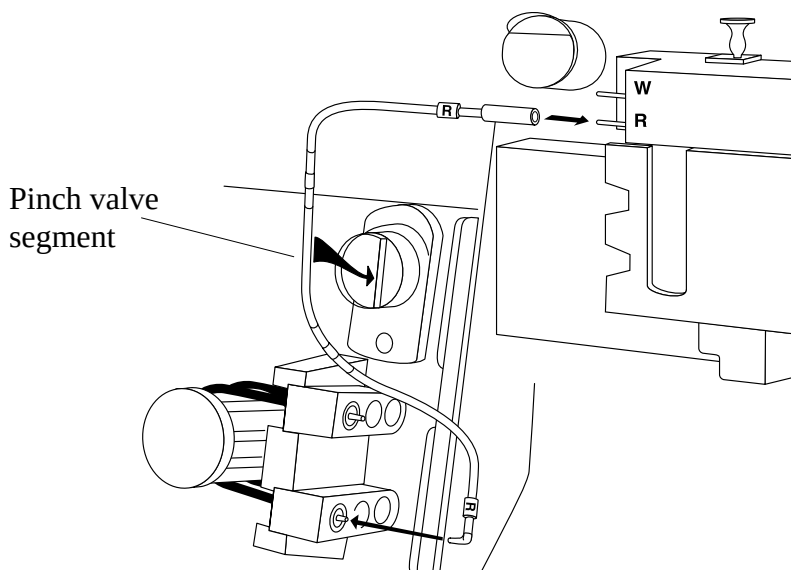

Figure 12.5 Connecting the R-line
5. Connect the line to the R-labelled outlet of the reference electrode and the outside of the bottom pump manifold. (See Figure 12.5.)